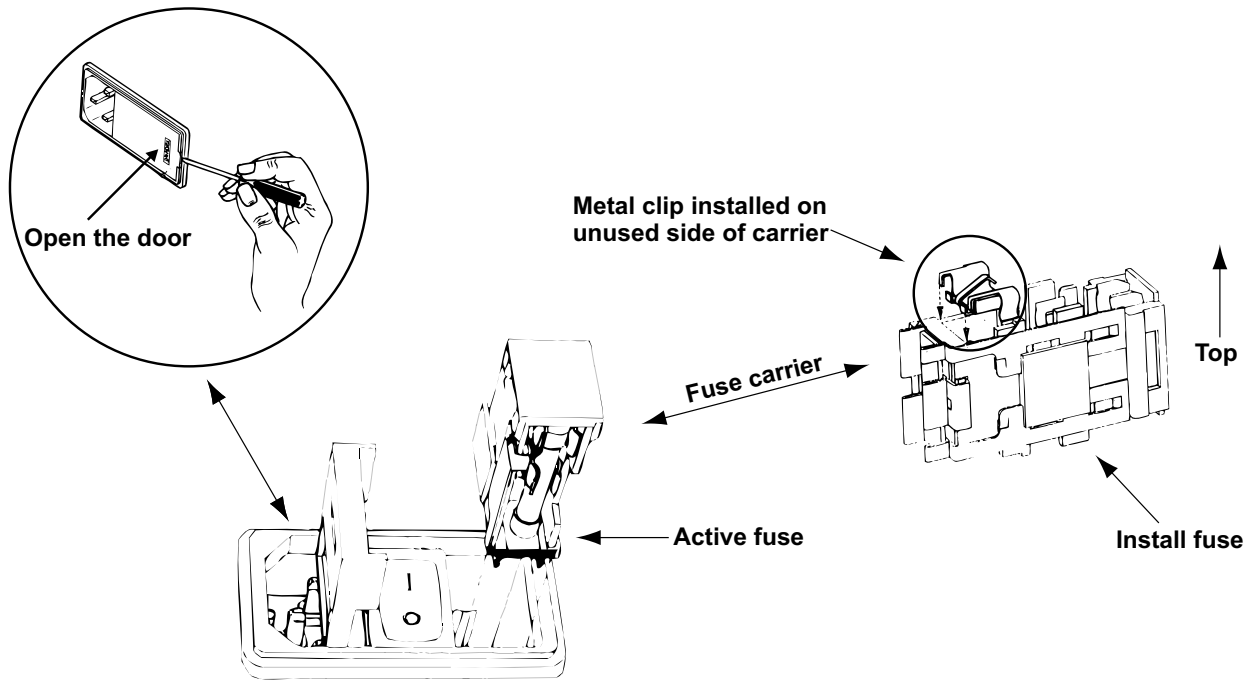

Figure 1-1 Checking the main fuse
1. Open the fuse compartment door in the AC power input housing with a small flat-blade screwdriver (Figure 1-1).
2. Check that the fuse in the active (lower) fuse carrier is the correct rating. The fuse carrier must be inserted into the compartment with the orientation shown in Figure 1-1. *Do not force the carrier into the compartment or both could be damaged.*